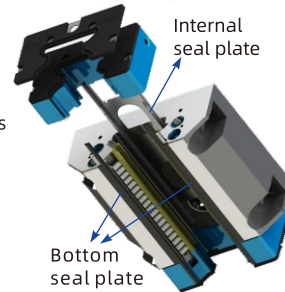

Figure 1
- 1) Using sealed end caps and bottom seal plate to prevent dust and debris from entering the interior of the slider, as shown in Figure 1.
- 2) Internal sealing: Internal sealing is to prevent foreign objects from entering the raceway and affecting the service life of the guide rail pair when the sealing end caps at both ends of the slider cannot fully block foreign objects, resulting in a small amount of them entering the interior of the slider. As shown in Figure 1.